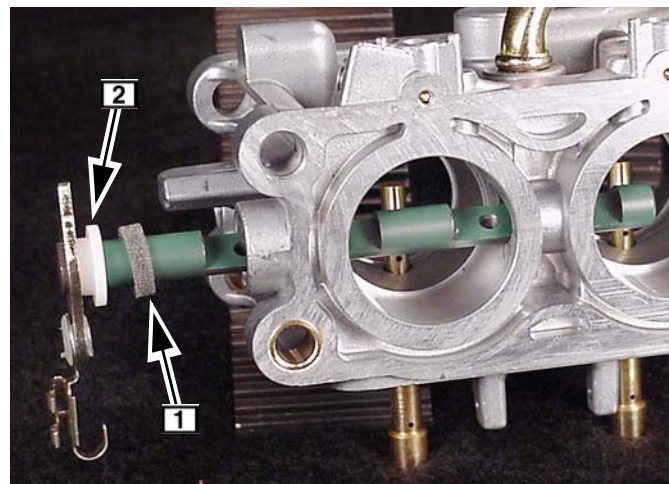

Fig. 130
3. Install new throttle shaft seal **1**, Fig. 130.